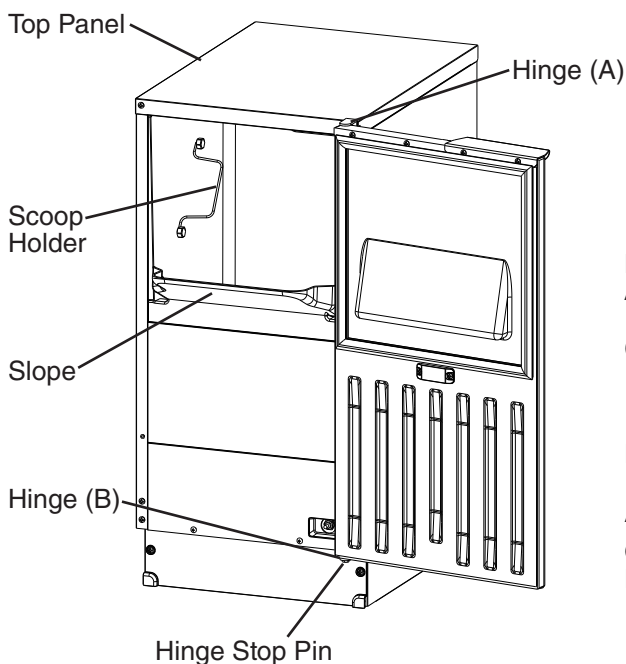

Fig. 15
- 3) While maintaining a hold on the door, remove the hinge stop pin from hinge (B). Pull out the bottom of the door slightly, then gently remove the door from hinge (A). See Fig. 15.